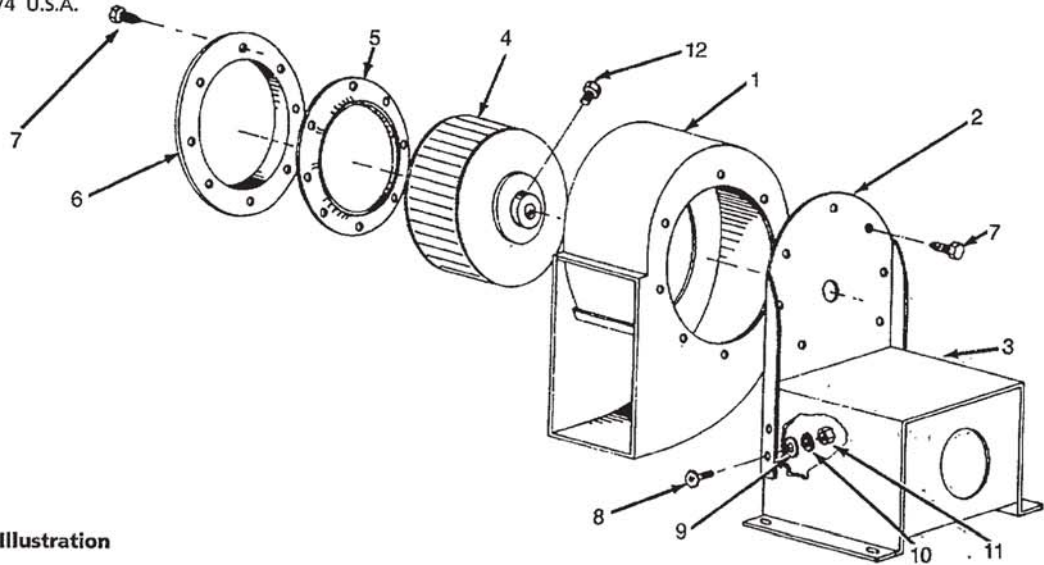

Figure 5 - Repair Parts Illustration
1. Attach base upright to the motor mounting base as shown in the exploded view. See Figure 5. Hand tighten (4) 1/4 -20 x 1/2" bolts, washers, and nuts through slotted holes in base upright. Place motor on motor base and align the center hole of the base upright with the motor shaft. Secure the four 1/4-20 bolts.